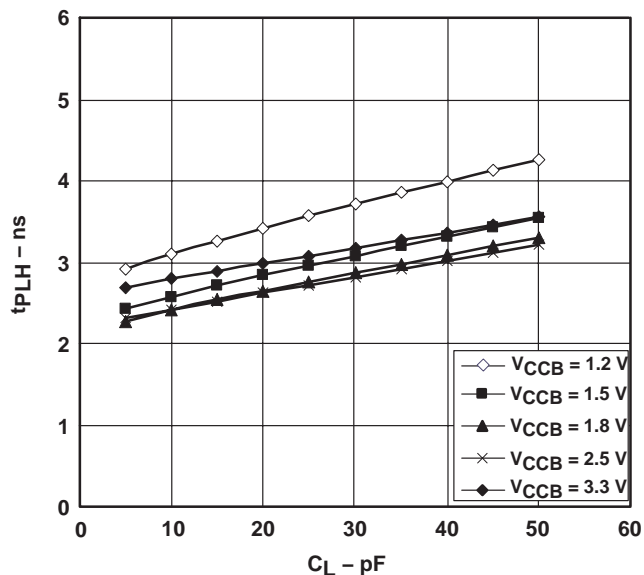

Figure 1
**$V_{CCA} = 1.5 \text{ V} \pm 0.1 \text{ V}$  (see Figure 1)**
**$V_{CCA} = 1.8 \text{ V} \pm 0.15 \text{ V}$  (see Figure 1)**
$V_{CCA} = 2.5\text{ V} \pm 0.2\text{ V}$  (see Figure 1)
$V_{CCA} = 3.3\text{ V} \pm 0.3\text{ V}$  (see Figure 1)